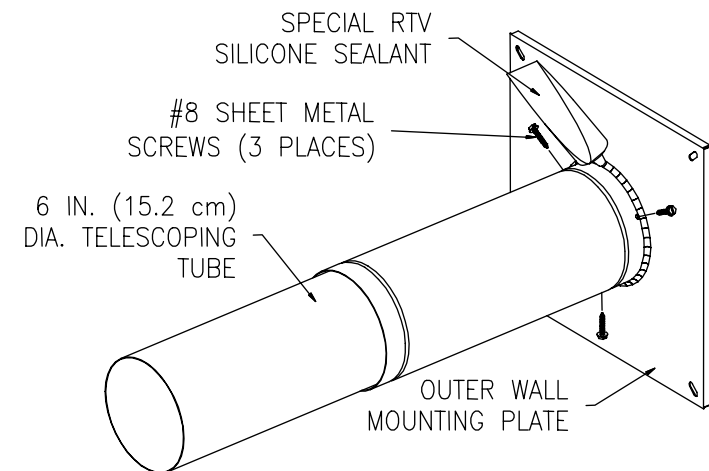

Figure 12.
8. Extend the six (6) inch (15.2 cm) diameter telescoping tube to its maximum length. Place the large end of the six (6) inch (15.2 cm) diameter telescoping tube over the collar on the outer wall mounting plate. Drill three (3) 1/8 inch (3.2 mm) diameter holes, 120° apart, through the six (6) inch (15.2 cm) diameter telescoping tube into the collar on the outer wall mounting plate. Fasten with three (3) #8 sheet metal screws (supplied). Using the supplied special RTV silicone sealant, apply a sufficient amount to seal the joint (See Figure 12).